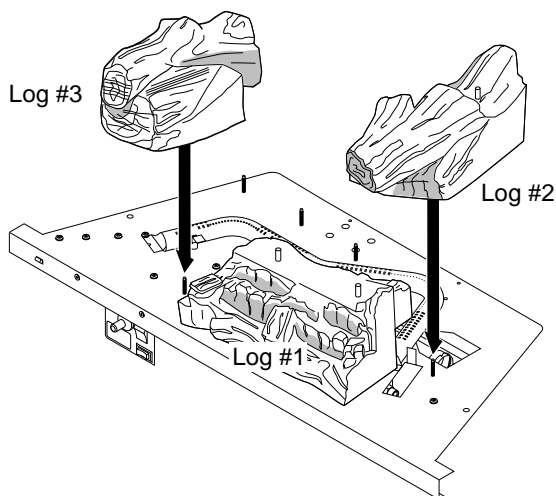

Figure 32 - Installing Log #2 (Right) and Log #3 (Left)
- Place log #2 to right of log #1 and onto log alignment screw as shown in Figure 32. Log #2 will wrap around right end of rear burner.
- Place log #3 on left side of base and onto alignment screw to right of rear burner (see Figure 32). Log #3 will wrap around left end of rear burner.